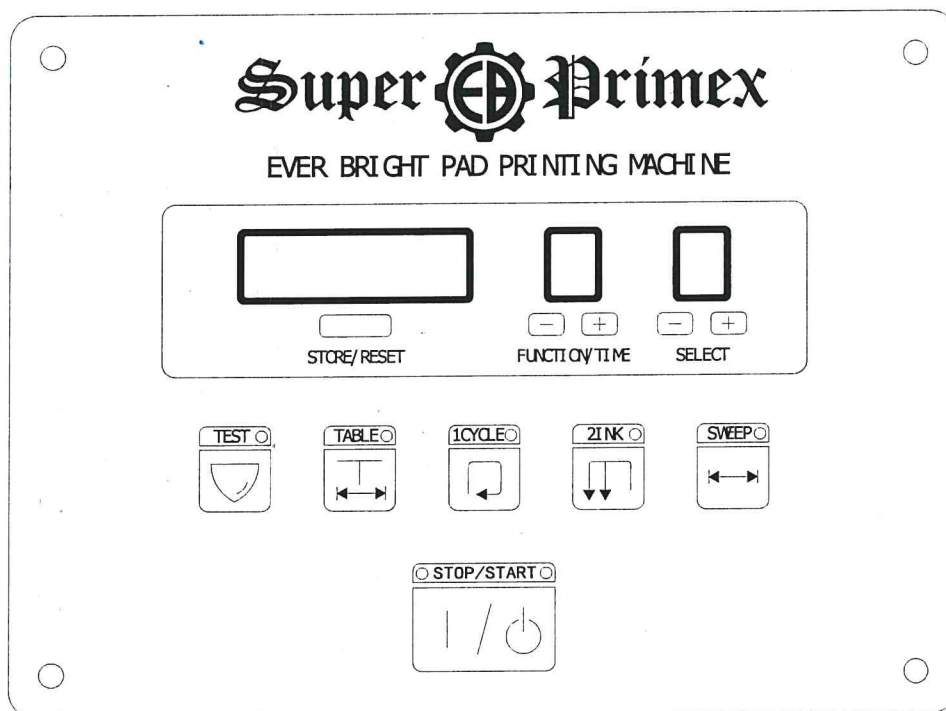

Figure 7
C. Control Panel (Figure 7)
- 4. Push "SWEEP" (Figure 7) to make ink cup move lengthwise. If ink can not be scraped clean, you should adjust ink cup knob assembly down properly.